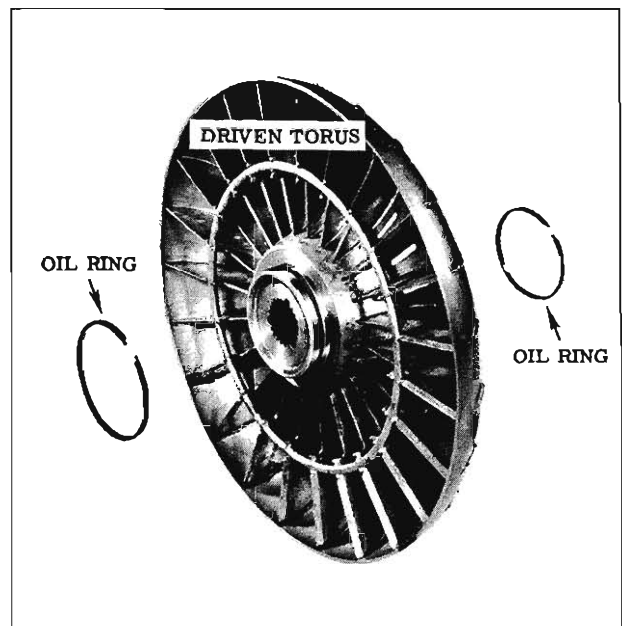

Fig. 6-108 Driven Torus
3. Install lock type oil ring on front and rear hubs of driven torus member, if removed. (Fig. 6-108)